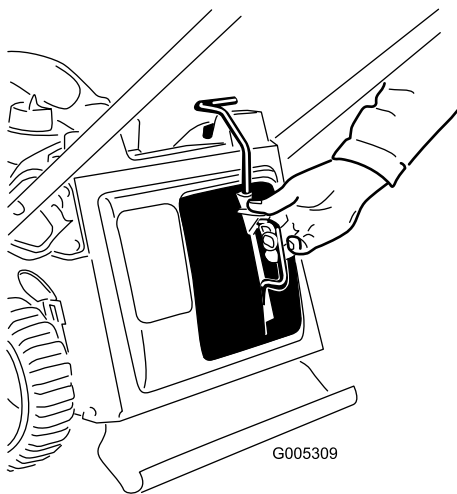

Figure 34
3. Insert the recycle plug (Figure 34).